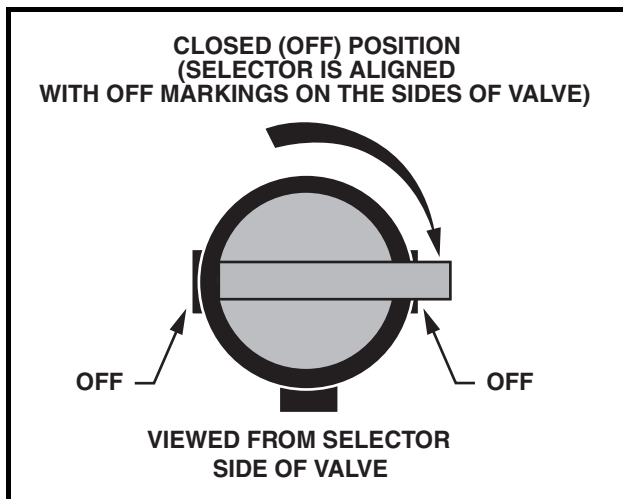

Figure 20 Fuel Shut-off Valve – Closed Position
2. Turn the key switch to the OFF position and place the Forward/Reverse handle or switch in the NEUTRAL position. Remove the key when the vehicle is not in use. For gasoline vehicles, also turn off the fuel shut-off valve (**Figure 20, Page 29**).
- Gasoline vehicles only: Turn the fuel shut-off valve to closed (OFF) position (Figure 20, Page 29).
- Gasoline vehicles only: Turn the fuel shut-off valve to the closed (OFF) position (Figure 20, Page 29).
- Turn the fuel shut-off valve to closed (OFF) position (Figure 20).
- 2.1. Place the Forward/Reverse handle in the NEUTRAL position and the neutral lockout cam in the MAINTENANCE position. Turn the fuel shut-off valve to the closed (OFF) position (**Figure 20, Page 29**) and run the engine until fuel remaining in the carburetor and fuel lines is depleted and the engine stalls. Return the neutral lockout cam to the OPERATE position.
- Turn the fuel shut-off valve to the closed (OFF) position (Figure 20, Page 29).